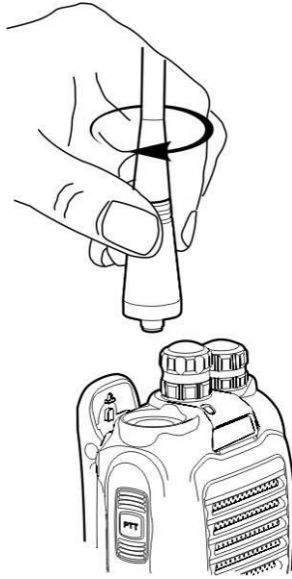

Figure 5
2. Turn the antenna clockwise until it is screwed down, shown as figure 5.